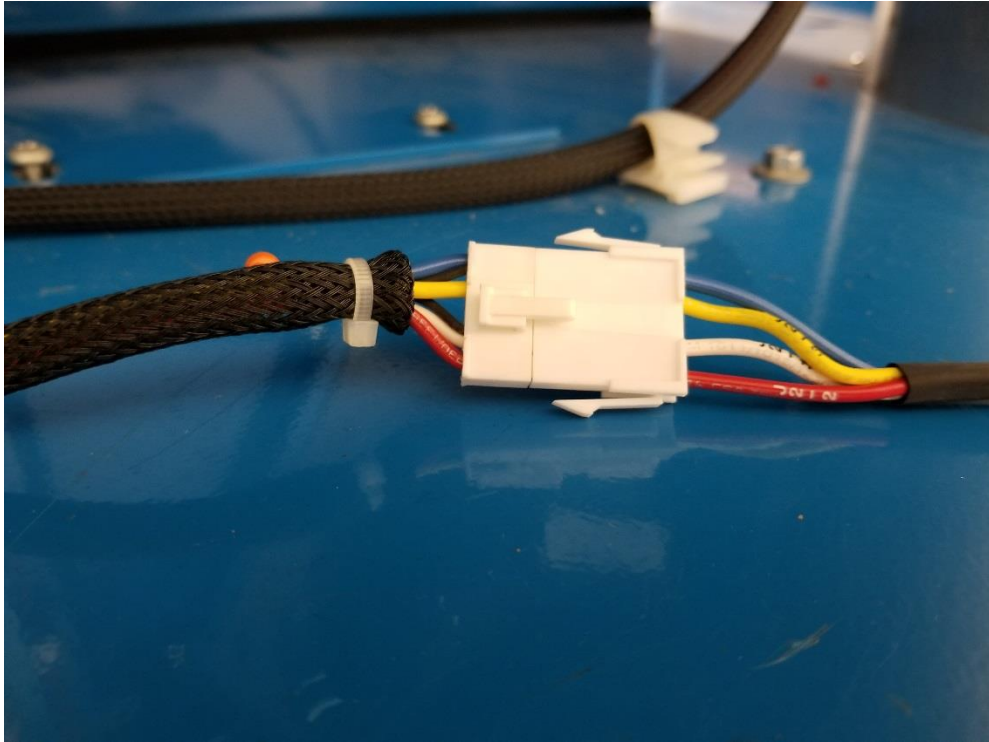

Figure 12
14. Plug fan back in shown in figure 12.